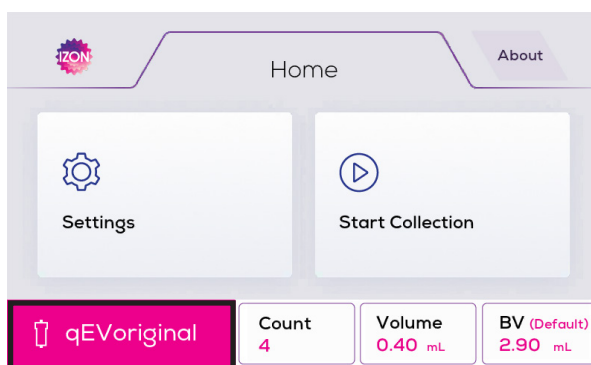

Figure 10: Home screen when a column is attached.
7. Turn the column within the column mount until the type of qEV column used is displayed on the touchscreen as shown in Figure 10.